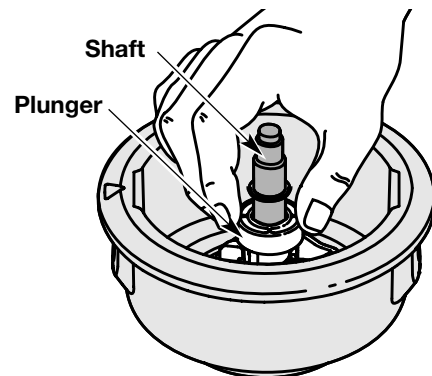

Fig. 23
5. Clean the shaft and the inner surface of the outer spool. To clean the shaft underneath the plunger, press down on the plunger (Fig. 23). Remove any dirt or debris from the shaft.